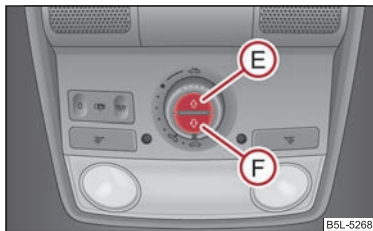

Fig. 35 Buttons for sun screen
⇒ page 46, fig. 35.
- Briefly press the button **(E)** ⇒ page 46, fig. 35 in order to fully open.
- Briefly press the button **(F)** ⇒ page 46, fig. 35 in order to fully close.
Press the switch  ⇒ page 46, fig. 35 for approx. 10 seconds in order to initialise the sun screen.